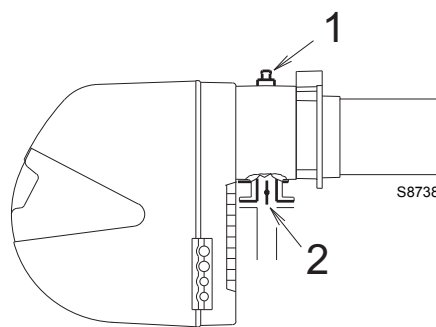

Fig. 23
Gas pressure measured at test point 1)(Fig. 23), with:
- Pressure loss at gas butterfly valve 2)(Fig. 23) with maximum opening: 90°.
- subtract the combustion chamber pressure from the gas pressure measured at test point 1)(Fig. 23).
Gas pressure at test point 1)(Fig. 23) = 17.0 mbar
To calculate the required gas pressure at test point 1)(Fig. 23), set the maximum modulating output required from the burner operation:
- read, on the right (column 1), the pressure at the test point 1) (Fig. 23).
pressure required at test point 1)(Fig. 23).